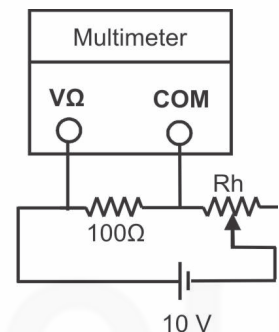

Fig. 8.4: Voltage measurement using a multimeter.
1. Connect the circuit as shown in Fig. 8.4.
Replace the DC power supply by an AC voltage source in Fig. 8.4. Follow the steps given for DC voltage measurement with the only difference that the range selector switch should be set in **AC V** position.